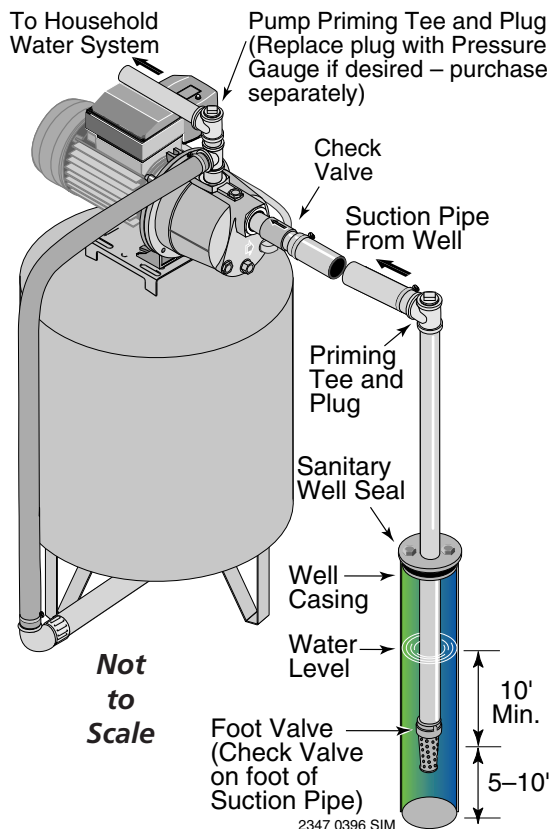

Figure 2 – Cased Well Installation
CASED WELL INSTALLATION, 2" OR LARGER CASING (FIGURE 2)
2. Assemble the foot valve, strainer, and well pipe (see Figure 2). Make sure that the foot valve works freely.
4. Install a priming tee, priming plug, and suction pipe to the pump (see Figure 2). Connect the pipe from the well to the pump suction port, using the fewest possible fittings – especially elbows – as fittings increase friction in the pipe (however, include a foot valve – see Figure 2). The suction pipe should be at least as large as the suction port on the pump. Use teflon tape on threaded pipe joints. Support the pipe so that there are no dips or sags in the pipe, so it doesn't strain the pump body, and so that it slopes slightly upward from the well to the pump (high spots can cause air pockets which can air lock the pump). Seal the suction pipe joints with teflon tape. Joints must be air-tight and water-tight. **If the suction pipe can suck air, the pump cannot pull water from the well.**